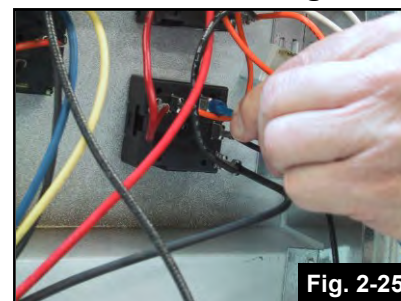

Fig. 2-25
3. Connect the other end of the BLUE relay wire to the front-left temperature control dial. (Fig.2-25)